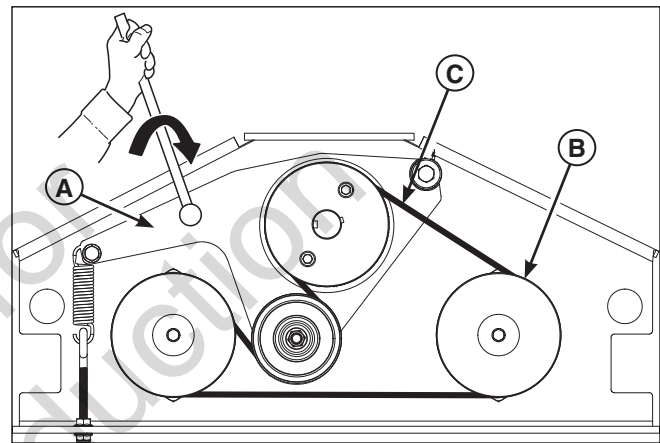
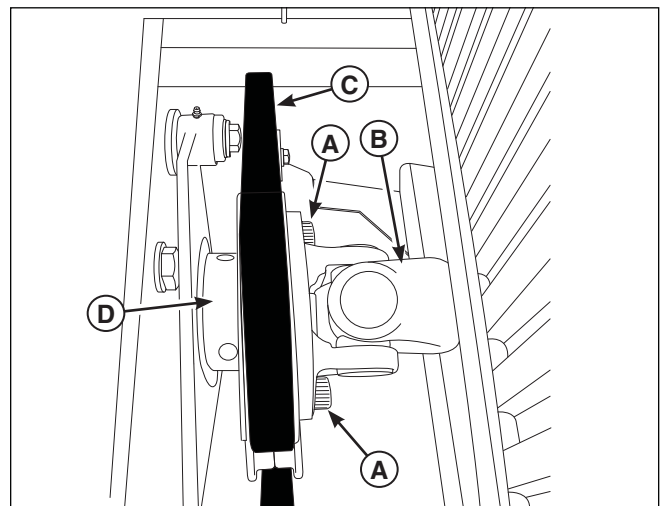

Figure 58. Removing the Tension on the Belt
Figure 59. Removing the Spindle Shaft
3. Using a 1/2" breaker bar, place the square end in the square hole located in the end of the idler arm (A, Figure 58). Carefully rotate the breaker bar **CLOCKWISE**, which will relieve the tension on the belt exerted from the idler arm.
4. Slide the drive belt over the edge of the right pump drive pulley (C). Carefully release the tension on the breaker bar.
5. Loosen and remove the two drive shaft collar bolts (A, Figure 59) from the drive shaft universal joint (B).
6. Pull the drive shaft universal away from the drive shaft spindle (D) and pivot out of the way.
7. Remove the old belt (E) and replace with a new one. Install the belt on the left pump drive pulley and the drive shaft spindle pulley. Make sure the V-side of the belt runs in the pulley grooves (Figure 58).
8. Using the two (2) drive shaft collar bolts (A) reinstall the drive shaft universal joint to the drive shaft spindle.
9. Install the drive belt on the idler arm pulley and check to make sure that the V-side of the belt runs in the pulley grooves. See Figure 58.
10. Carefully rotate the breaker bar **CLOCKWISE** and install the belt on the right pump drive pulley (B, Figure 58). Carefully release the tension on the breaker bar.